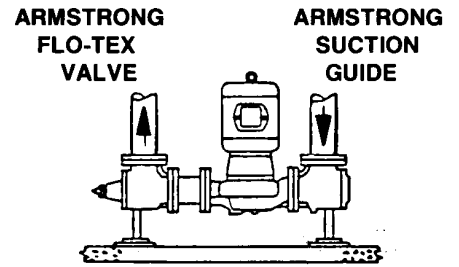

Fig. 1 Recommended Installation
- (a) Floor mounted supports under Armstrong Suction Guide and Flo-Trex Valve (Fig. 1)